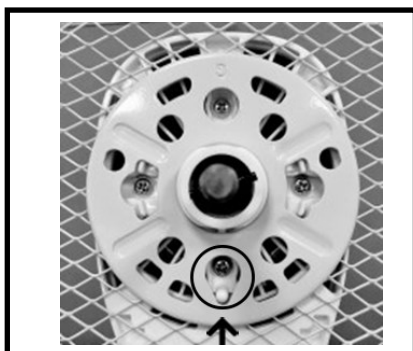

Fig1
6. Fit Rear Grill onto the Shaft, ensure location lugs are all lined up (Fig1) before tightening up the plastic nut. To tighten the plastic nut rotate clockwise.